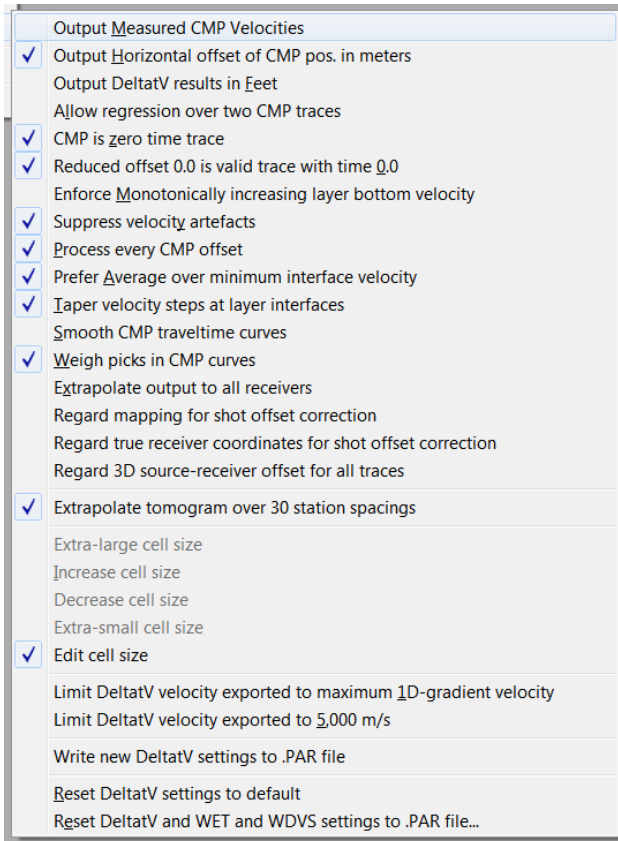
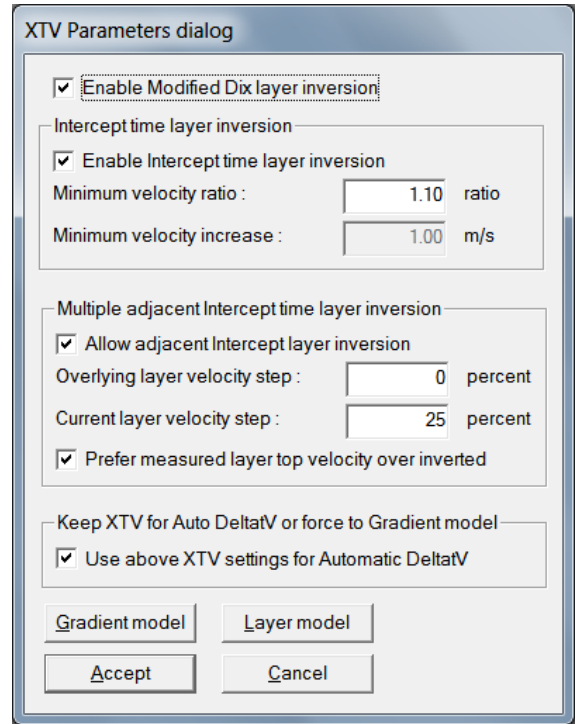
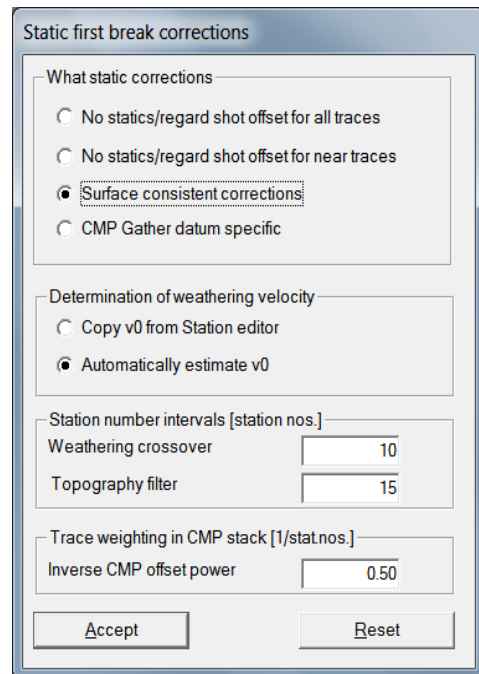

Fig. 26 : DeltatV\DeltatV Settings for Fig. 23 & Fig. 25
Fig. 27 : DeltatV\XTV parameters for Fig. 23 & 25. For Fig. 23 set *Minimum velocity ratio* to 1.05.
Fig. 29 : DeltatV\Interactive DeltatV\Static Corrections. Default settings for Fig. 23 and 25.
- check *DeltatV|DeltatV settings|Taper velocity steps at layer interfaces* (Fig. 26)
- check *DeltatV|DeltatV settings|Suppress velocity artefacts* (Fig. 26)
- check *DeltatV|DeltatV settings|Process every CMP offset* (Fig. 26)
- uncheck ...*|DeltatV settings|Limit DeltatV velocity exported to maximum 1D-gradient velo.* (Fig. 26)
- select *DeltatV|XTV parameters* and edit as in Fig. 27. Set *Minimum velocity ratio* to 1.10.
- click button *Static Corrections*. Leave at defaults (Fig. 29) and click button *Accept*.
- obtain Fig. 23 as Fig. 25 but with *DeltatV|XTV parameters|Minimum velocity ratio* 1.05 (Fig. 27)
At offset range 0m to 80m Fig. 23 and Fig. 25 better match the true model (Fig. 24) than Fig. 6 for which *XTV parameters* (Fig. 27) were implicitly set to option *Gradient model* during *DeltatV|Automatic DeltatV*.
Fig. 23 : check DeltatV options *Suppress velocity artefacts*, *Process every CMP offset*, *Taper velocity steps at layer interfaces*. Uncheck *Limit DeltatV velocity to maximum 1D-gradient velocity* (Fig. 26). Increase *Max. velocity exported* to 5,800m/s (Fig. 9). Activate *Surfer plot limits* (Fig. 4). Layered XTV with *Minimum velocity ratio* 1.05 (Fig. 27).
Fig. 25 : Default *Weathering crossover* 10 stations (Fig. 29). Default *Topography filter* 15 stations (Fig. 29). Check DeltatV options *Suppress velocity artefacts*, *Process every CMP offset*, *Taper velocity steps at layer interfaces*. Uncheck *Limit DeltatV velocity to maximum 1D-gradient velocity* (Fig. 26). Increase *Max. velocity exported* to 5,800m/s (Fig. 9). Activate *Surfer plot limits* (Fig. 4). Layered XTV with *Minimum velocity ratio* 1.10 (Fig. 27).
Our latest version 4.03 released in Dec 2022 offers a new option at bottom of *DeltatV\XTV parameters* dialog named *Use above XTV settings for Automatic DeltatV* (Fig. 27). Check this option to obtain Fig. 23 and Fig. 25 with *DeltatV\Automatic DeltatV* instead of *DeltatV\Interactive DeltatV*. You still first need to increase the *Max. velocity exported* in dialog *DeltatV\DeltatV Export Options* or in *DeltatV\Interactive DeltatV\Export Options* (Fig. 9).
Fig. 30 (same as Fig. 23) : Layered XTV with *Minimum velocity ratio* 1.05 (Fig. 27). Default **Weathering crossover** 10 stations (Fig. 29). Default **Topography filter** 15 stations (Fig. 29). Check DeltatV options *Suppress velocity artefacts*, *Process every CMP offset*, *Taper velocity steps at layer interfaces*. Uncheck *Limit DeltatV velocity to maximum 1D-gradient velocity* (Fig. 26). Increase *Max. velocity exported to 5,800m/s* (Fig. 9). Activate *Surfer plot limits* (Fig. 4).